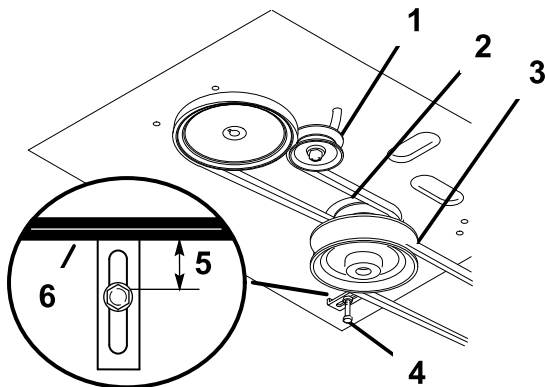

Figure 49
- Check the belt guide under the engine frame for proper adjustment (Figure 49).
Note: The distance between the belt guide and the mower belt should be $\frac{3}{4}$ inch (19 mm) when you engage the mower belt (Figure 49). Adjust the mower belt as necessary. The disengaged belt should not drag or fall off the pulley when the guides and belt tension are properly adjusted.